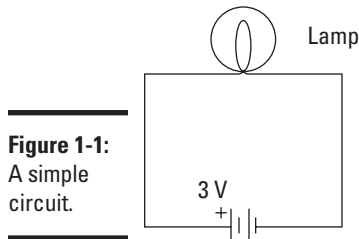

Figure 1-1:
For example, Figure 1-1 shows a simple circuit that includes two components: a battery and a lamp. The circuit allows current to flow from the battery to the lamp, through the lamp, then back to the battery. Thus, the circuit forms a complete loop.
- ◆ **Voltage source:** A voltage source causes current to flow. In Figure 1-1, the voltage source is the battery.
In Figure 1-1, the load is the lamp. In complex circuits, the load is a combination of components, such as resistors, capacitors, transistors, and so on.
In Figure 1-1, the two lines that travel between the battery and the lamp represent the conductive path. The conductive path can be intricate in a complex circuit, but it must still form a loop from the negative side of the voltage source to the positive side.
- ◆ Imagine electric current flowing through a circuit from the positive side of the voltage source to the negative side because this is usually how you visualize a circuit when you study it. For example, in Figure 1-1, think of the current as flowing in a clockwise direction, starting at the positive terminal of the battery, flowing through the path at the left side of the diagram to the lamp at the top of the diagram, through the lamp and then through the path at the right side of the diagram and finally returning to the negative terminal of the battery.